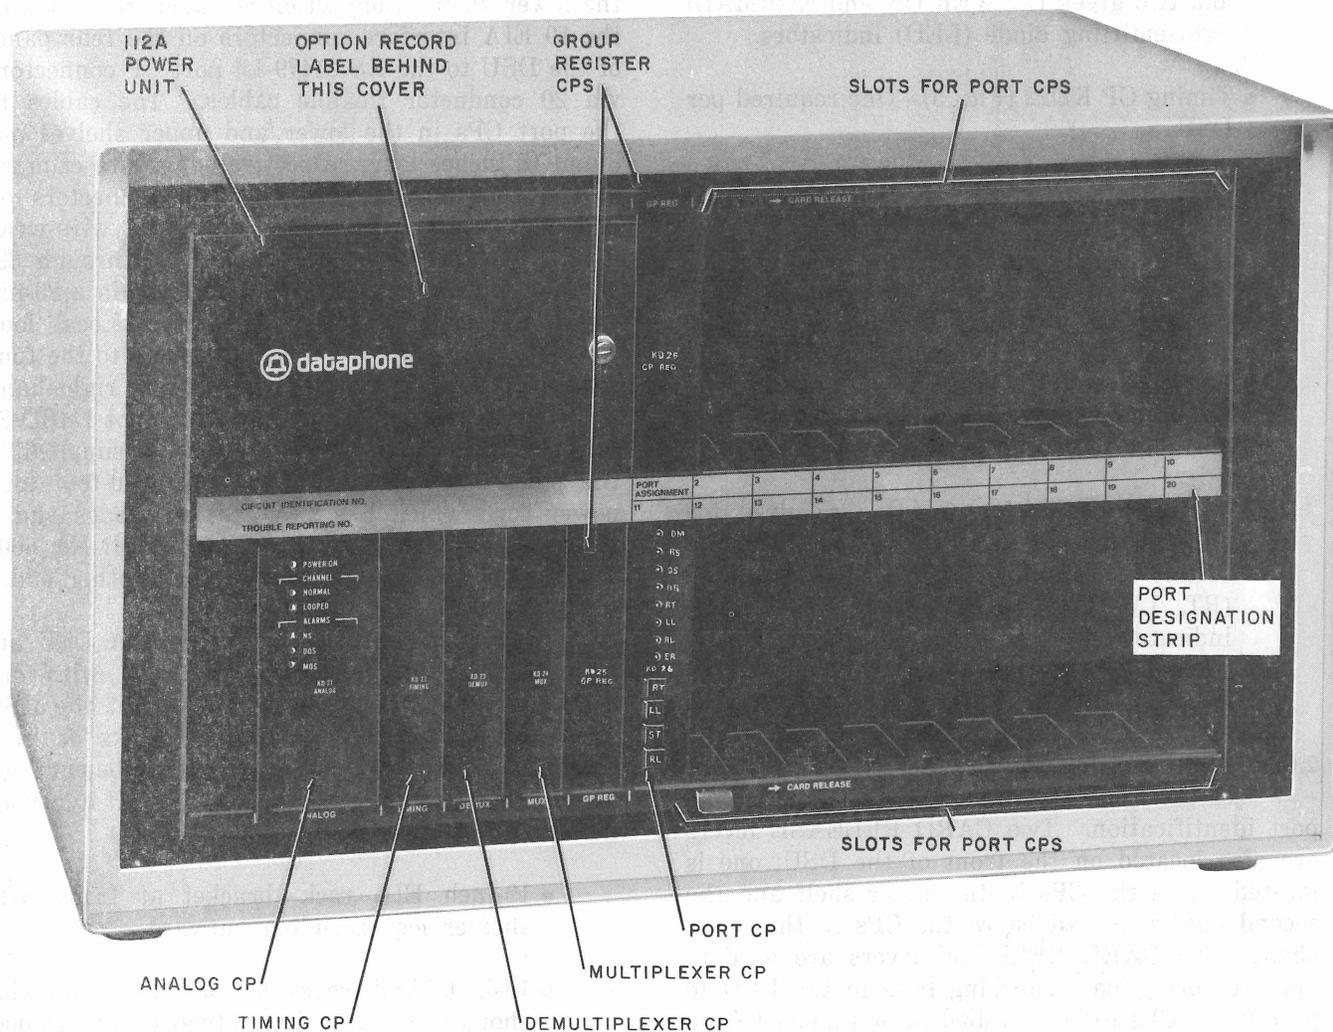

Fig. 2—Front View of a 510A DSU Mounted in a KS-20018-L19 Cabinet With Front Cover Removed
**2.02** The two shelves of a 510A-type DSU (Fig. 2 and 3) have space for housing the following equipment.